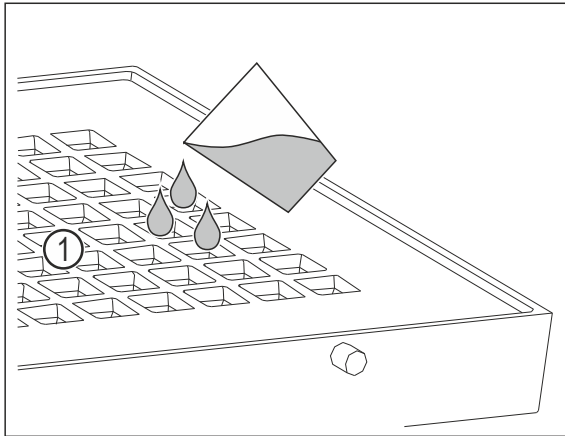

Fig. 82
- ▶ Fill in water no more than 400 ml (13.53 oz) over the holes Fig. 82 (1) in the cover.